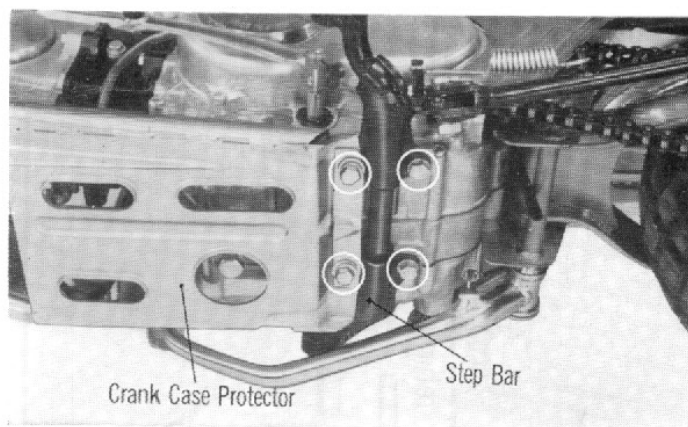

Fig. 5
Remove the crank case protector from the engine at the bottom by removing two bolts. (Fig. 5)
11. Remove the step bar by removing two bolts. (Fig. 5)